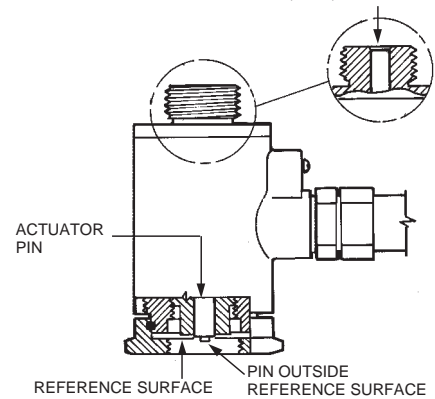

FIGURE 7
- The actuator is in the fired position if the following conditions exist (See Figure 7):